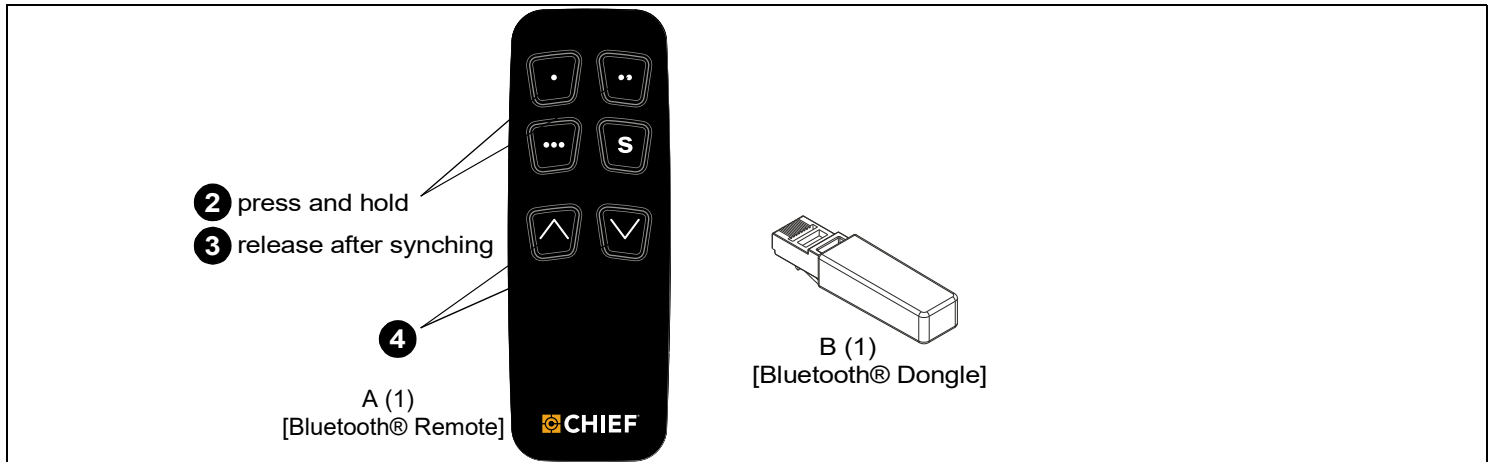

Figure 1
2. Press and hold top two buttons on the Bluetooth® remote (A). (See Figure 1)
3. When the "blue" light on the dongle (B) turns off, the remote is synched and buttons can be released.
4. Test remote functionality by using the up and down buttons. (See Figure 1)